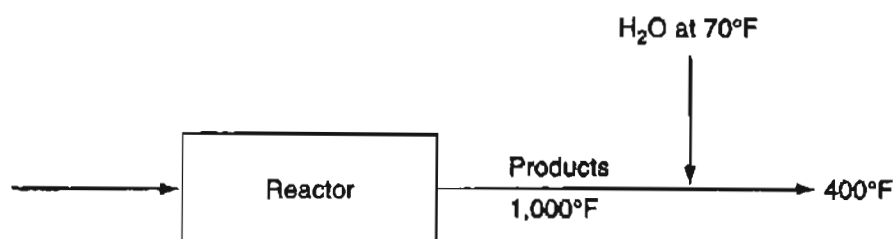

Figure P24.2
***24.2** Hot reaction products (assume they have the same properties as air) at 1000°F leave a reactor. In order to prevent further reaction, the process is designed to reduce the temperature of the products to 400°F by immediately spraying liquid water into the gas stream. Refer to Figure P24.2.